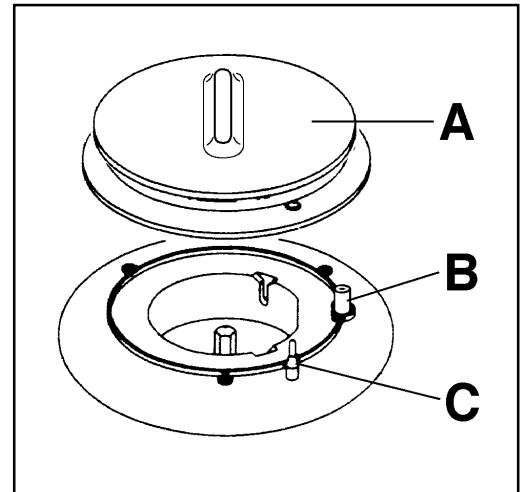

Fig. 1
- upon ignition, keep the knob pushed down about **5 seconds**. This will allow the "thermocouple" (Fig. 1 - letter C) to be heated and the safety device to be switched off, otherwise the gas supply would be interrupted;
The electric ignition is obtained through a ceramic "electrode" and a metal electrode (Fig. 1 - letter B). Keep these components very clean, to avoid lighting difficulties, and check that the burner crown holes are not obstructed.